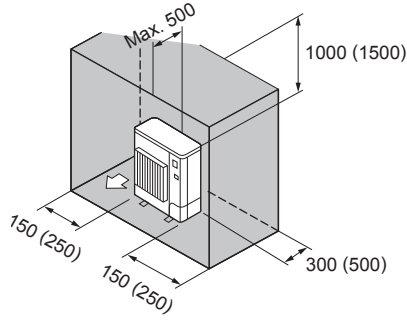

Fig. 1-10
- ⑥ Obstacles at rear, sides, and above only (Fig. 1-10)
(2) When installing multiple outdoor units (Refer to the next page)